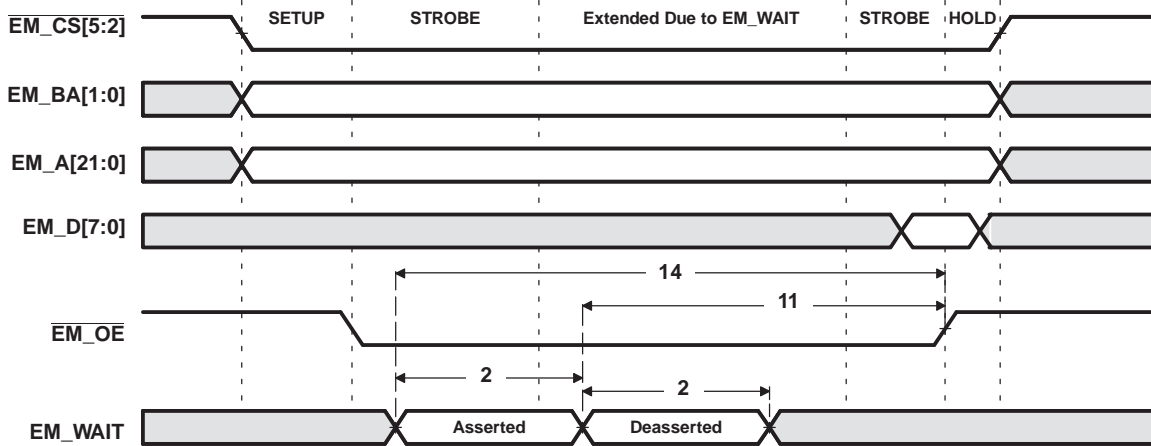
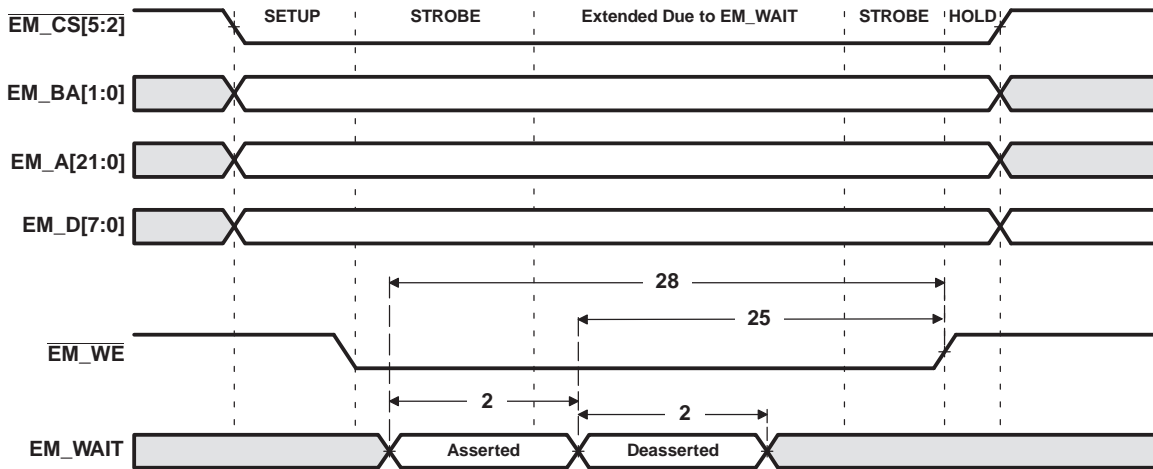

Figure 6-16. $\overline{\text{EM_WAIT}}$ Read Timing Requirements
Figure 6-17. EM_WAIT Write Timing Requirements
- (1) E = SYSCLK3 period in ns for EMIFA. For example, when running the DSP CPU at 300 MHz, use E = 20 ns.
- (2) Setup before end of STROBE phase (if no extended wait states are inserted) by which EM_WAIT must be asserted to add extended wait states. Figure 6-16 and Figure 6-17 describe EMIF transactions that include extended wait states inserted during the STROBE phase. However, cycles inserted as part of this extended wait period should not be counted; the 4E requirement is to the start of where the HOLD phase would begin if there were no extended wait cycles.